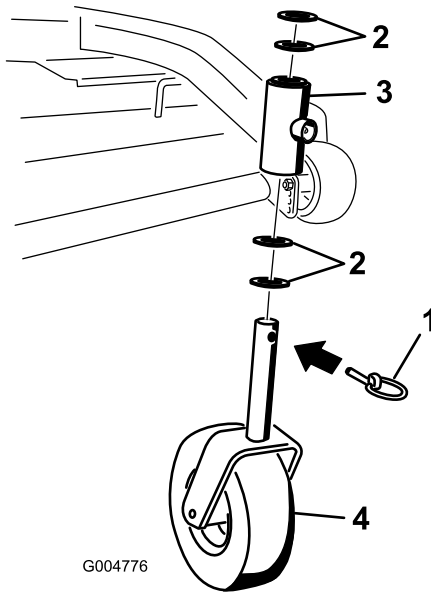

Figure 37
2. Remove the locking pin and spacer(s) from the top of the caster-wheel fork (Figure 37).
6. Inspect the caster wheel fork for wear and replace if necessary (Figure 37).
Note: Replace the spacer(s) onto the fork and secure with the retaining ring (Figure 37).